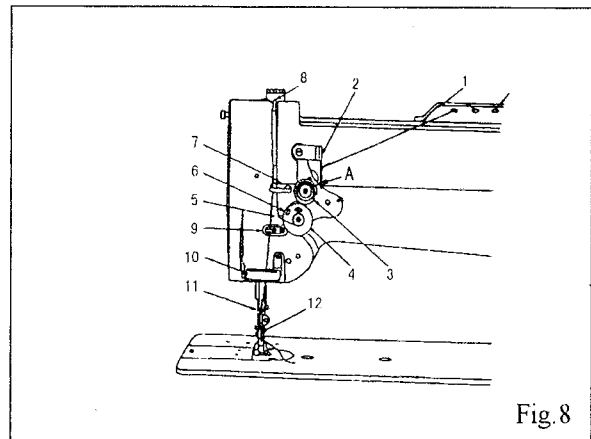

Fig.8
8. THREADING (Fig.8)
Before adjusting the tension of the upper (needle) thread, be certain that the presser foot is let down but not in lifted position. To adjust tension, turn serrated nut (A Fig.8) on tension device to clockwise to increase tension, while turning it to counter-clockwise to decrease it.